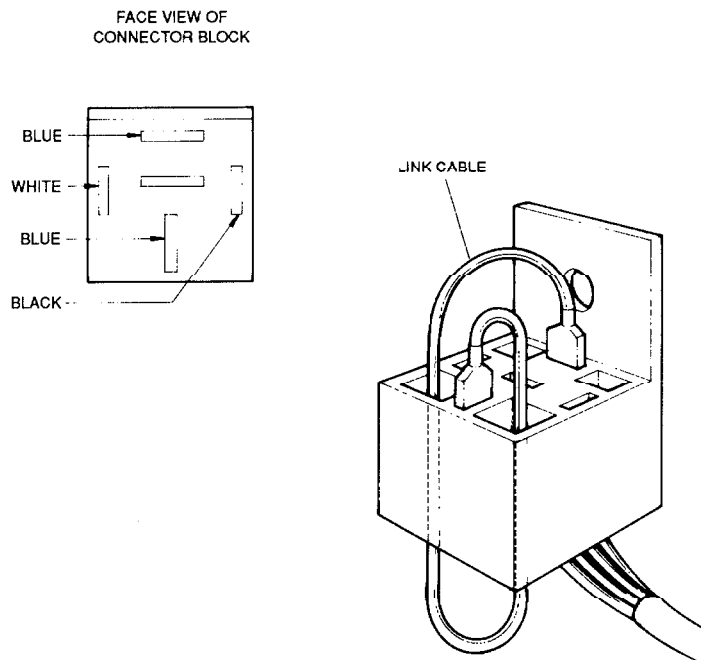

FIG 1 - LINK FITMENT
- d. Fit the link cable (item 1 from Table 1) to the two blue wires as shown in Fig 1, ensuring that the cable is threaded through the block to prevent accidental dislodgement.